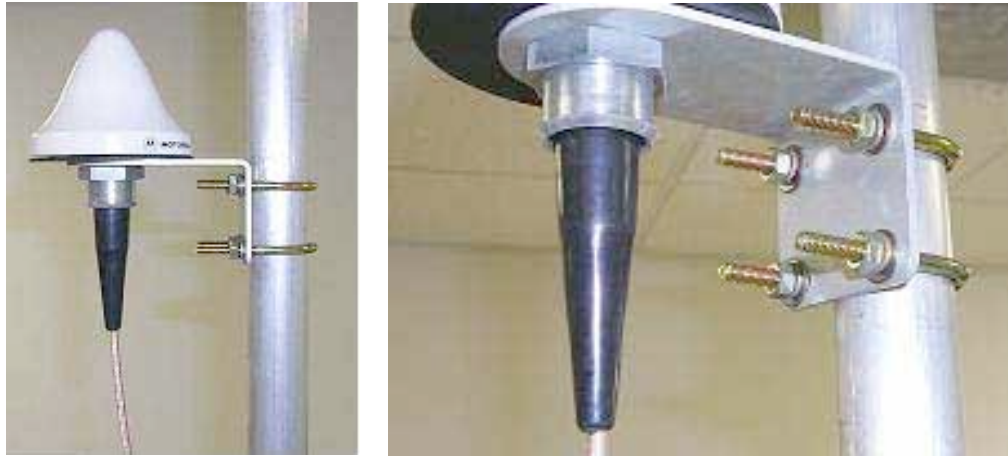

Figure 121: Detail of GPS antenna mounting
3. Place the U-bolts (provided) around the pole as shown in Figure 121.